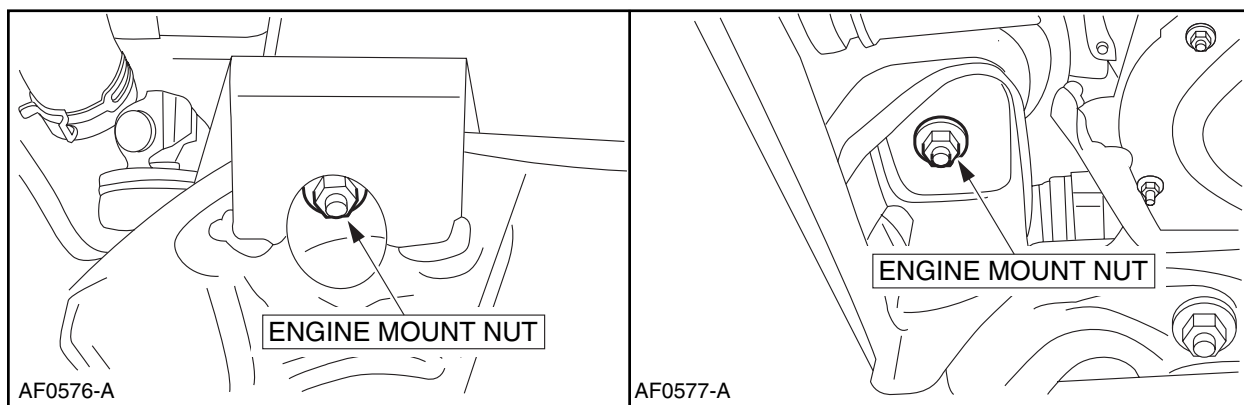

FIGURE 7
12. Remove the two engine mount nuts. See Figure 7.